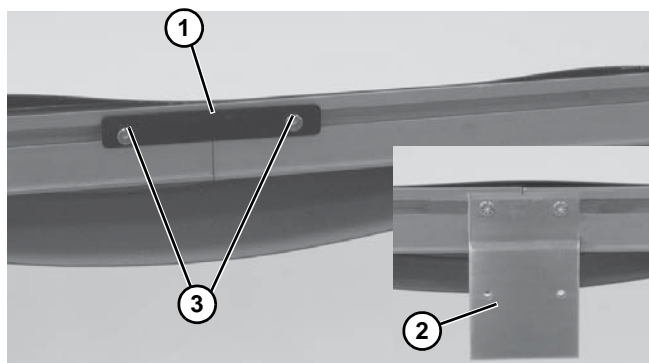

Figure 7
- Join conveyor sections and install connector brackets (**Figure 7, item 1**) or connector/mount brackets (**Figure 7, item 2**) and screws (**Figure 7, item 3**) on both sides as indicated. Tighten screws to 60 in-lb (7 Nm).